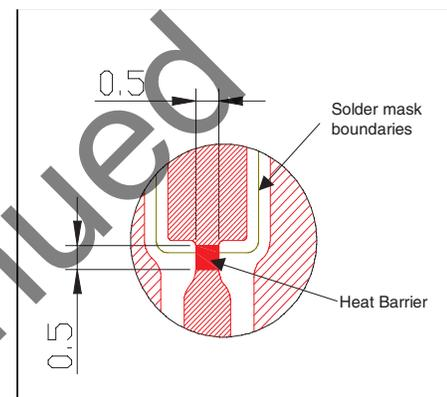

Figure 3. Creating a Heat Barrier for Hot-Bar Soldering.
- Create a heat barrier in between the solder pad and the electrical connection. Large areas of copper connected to the solder pad will draw heat away from the solder pad. This makes it more difficult to reach the required solder temperature and increases the time required to form the solder joint (see figure 3).